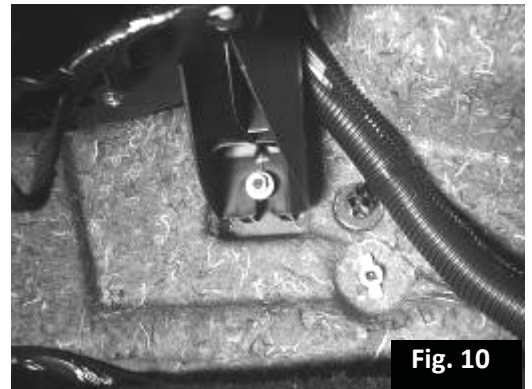

Fig. 10
15. Remove the nut from the stud at the base of the HVAC fan housing. Fig. 10